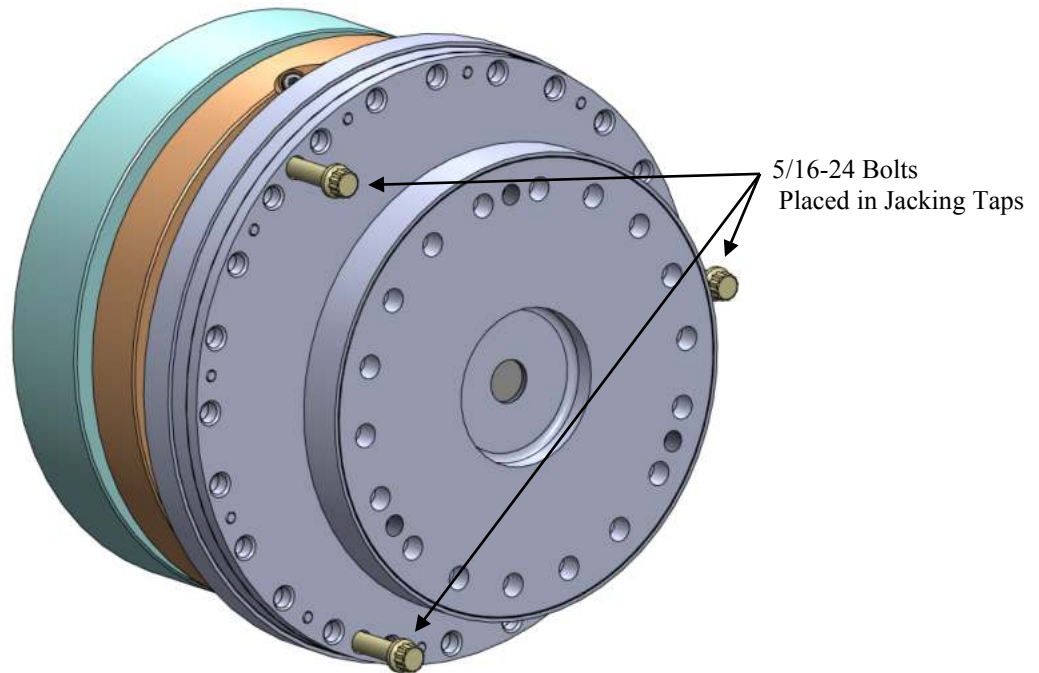

Figure 18 – Screws in Jacking Taps for Flex Assembly Removal
5.2.2 Insert (3) of the removed 5/16-24 bolts in the jacking taps of the joint as shown in Figure 18.